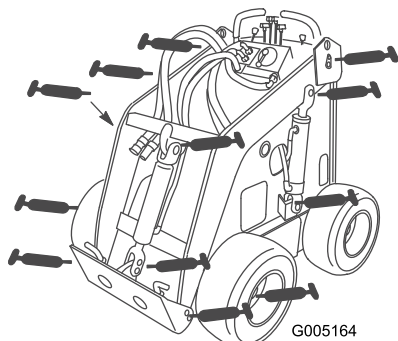
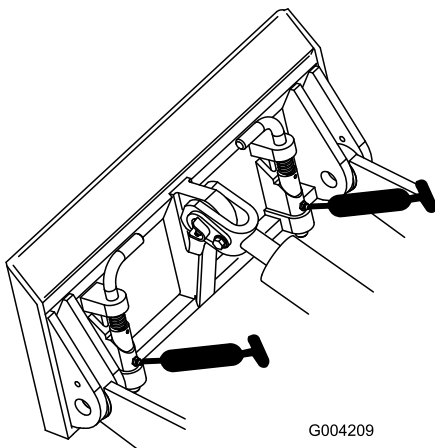

Figure 16
Figure 17
3. Connect a grease gun to each fitting (Figure 16 and Figure 17).